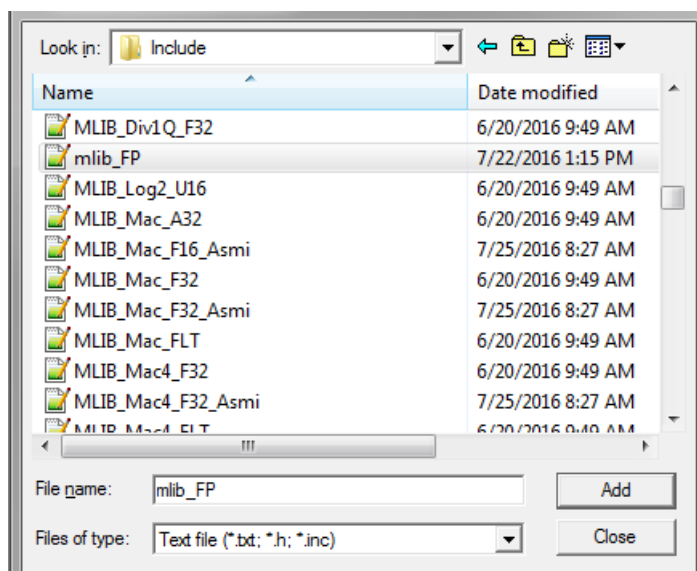

Figure 1-29. Adding .h files dialog
4. Navigate into the library installation folder C:\NXP\RTCESL\CM4F_RTCESL_4.5_KEIL\MLIB\Include, and select the *mlib_FP.h* file. If the file does not appear, set the Files of type filter to Text file. Click Add. See Figure 1-29.